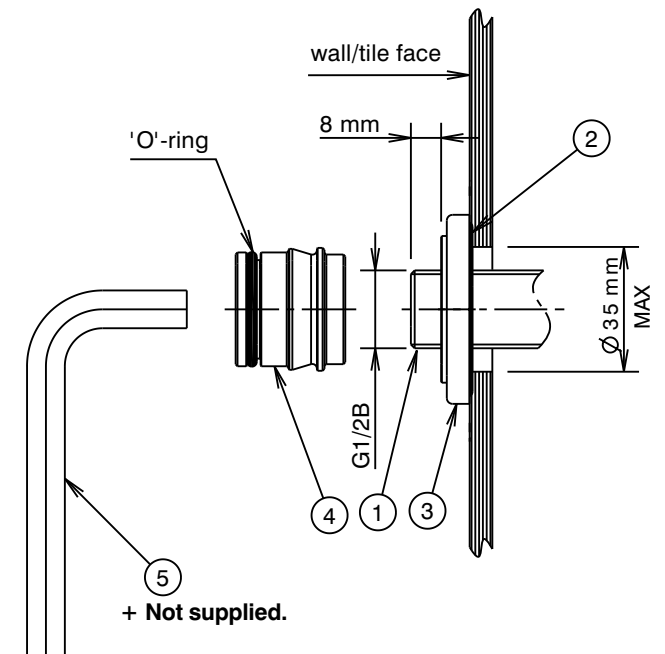

Fig. 1
- 1) Ensure 'O'ring (2) is fitted to the groove in the base of cover plate (3), fit the cover plate (3) over threaded nipple (1) and check that the thread is the correct length, as shown (Fig.1). Cut to length if required ensuring end face is square. Apply thread tape to the thread.
- 2) Locate the cover plate (3) on the threaded nipple (1) and screw the adaptor (4) onto the threaded nipple (1) using a 10mm allen key (5) until the cover plate (3) is held securely against the wall/ tile face. **DO NOT OVERTIGHTEN.**